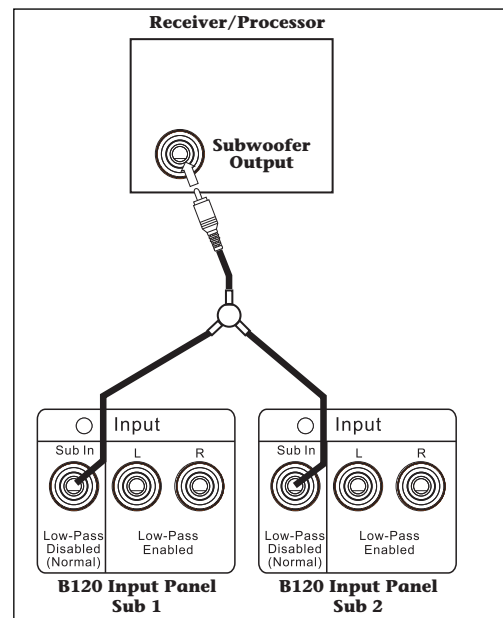

Figure 11: Connection to multiple B120 subwoofers
1. Connect an RCA patch cable from the Subwoofer or LFE output on the processor/receiver to the single input on the Y-adapter, as shown in Figure 11.